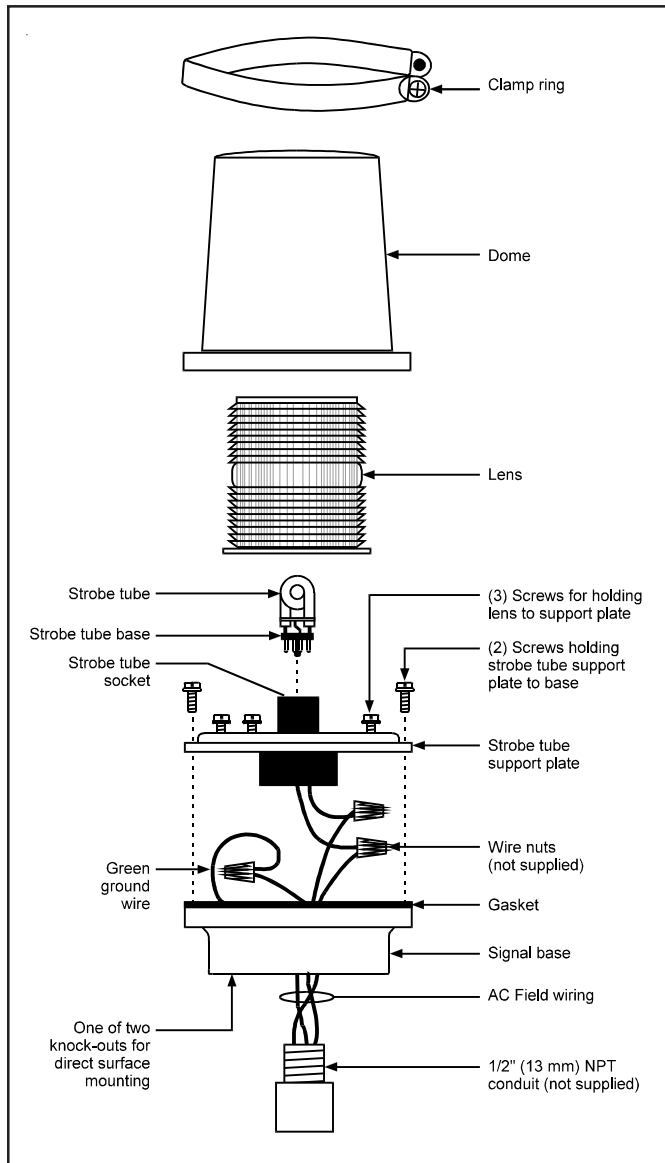

Figure 1. Installing the 90 Series Signals
- a. **90 Series:** See Figure 1. Remove the screw in the clamp ring, remove the ring and lift the dome off the signal. Loosen the three screws in the base of the lens, turn the lens clockwise and lift it straight up and off of the strobe tube support plate, being careful not to damage the strobe tube. Remove the two screws that are partially set into the raised area of the strobe tube support plate. Then, grasp the socket (on the strobe tube support plate) and carefully lift the support plate off of the signal base.
- a. **90 Series:** Refer to Figure 1. Remove the screw in the clamp ring, remove the ring and lift off the dome. Loosen the three screws in the base of the lens, turn the lens clockwise and lift it straight up and off of the strobe tube support plate, being careful not to damage the strobe tube. Proceed to step 2.